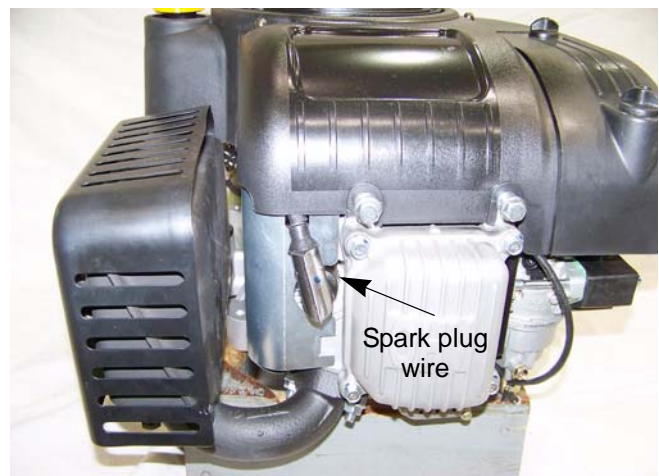

Figure 7.7
1. Disconnect and ground the spark plug wire. See Figure 7.7.